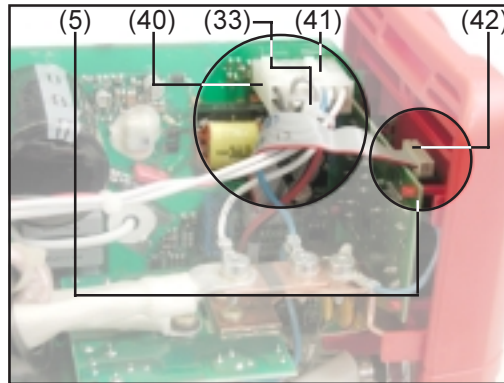

Fig. 12
- Plug the 10-pole Molex plug (41) onto board LCA15
- Plug the 2-pole Molex plug (40) onto board LCA15
- Fix the cable harness for 2-pole Molex plug (40) and 10-pole Molex plug (41) with a cable binder.
Note! Before plugging in the ribbon cable (42), pass it across the cable harness for Molex plugs (40) and (41), as shown in Fig. 12.
- Arrange the ribbon cable (42) above the cable harness, as shown in Fig. 12
- Plug the ribbon cable (42) to board FPA15 (5)